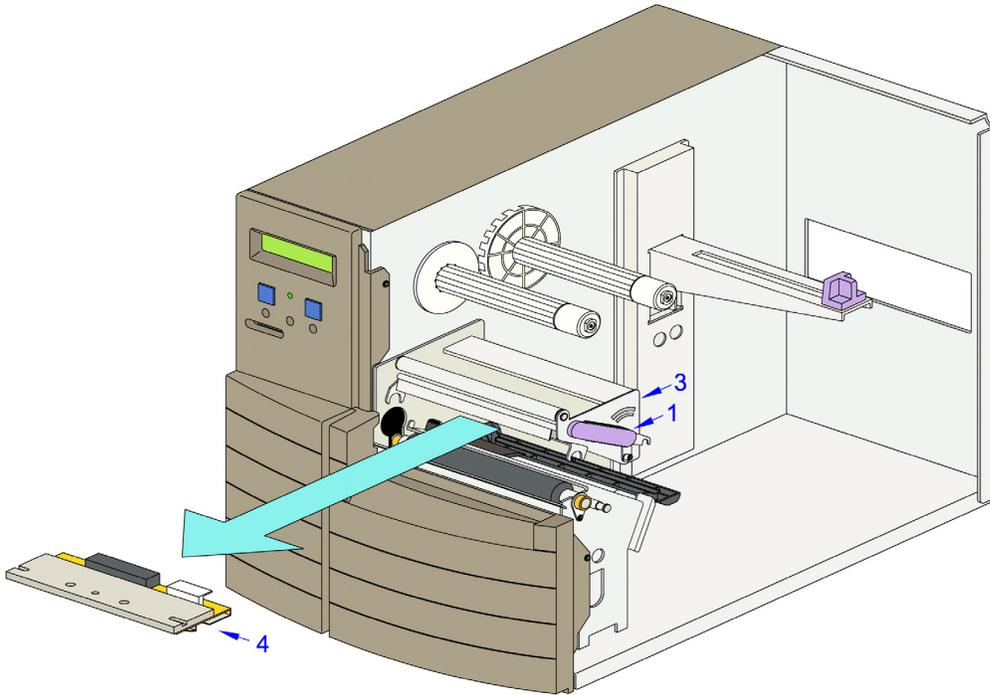

Figure 7-1b, Print Head Replacement
3. Remove screw (2) from upper print assembly (3) securing defective print head (4, Figure 7-1b).
4. Unlatch print head release lever (1) and withdraw defective print head (4) from within print assembly (3).
5. Disconnect the two wiring harnesses (not shown) from defective print head (4).
6. Reconnect two wiring harnesses (not shown) to replacement print head (4).